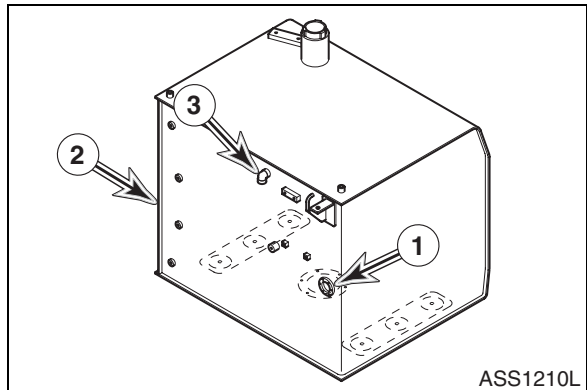

Figure 13
6. Connect wires as tagged to fuel sensor (1, Figure 13) on side of fuel tank (2).
7. If equipped, connect components to the fuel filter pump port (3, Figure 13) on side of fuel tank (2).